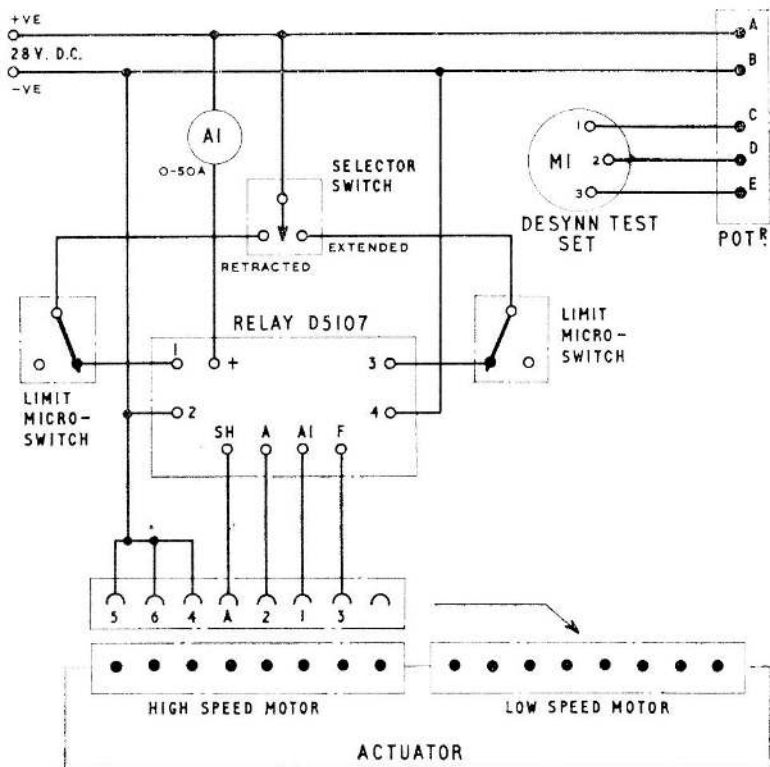

Fig. 5. Test circuit diagram
28. Mount the actuator on a suitable travel setting rig with the limit switches arranged so that they operate $\frac{1}{4}$ in. from the fully extended and retracted positions, and connect to the test circuit as shown in fig. 5.